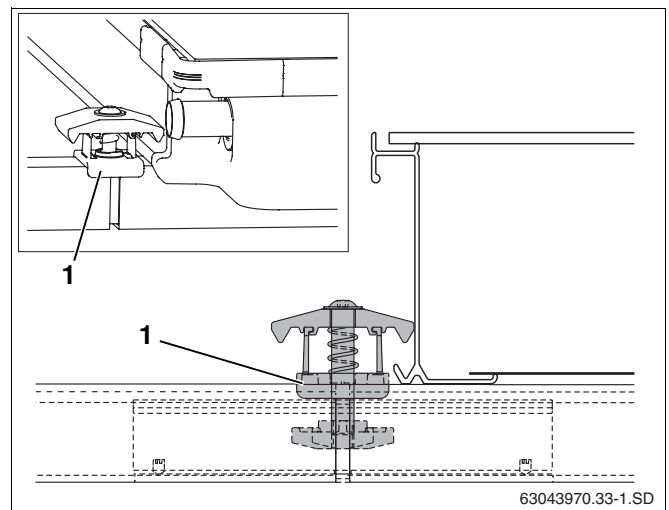

Fig. 48 Fitting a double-sided collector clamp
- Insert the double-sided collector clamp, nut first, into the opening made by the profile rail and plug connector so that the plastic spacer (Fig. 48, **Item 1**) surrounds the profile rail.